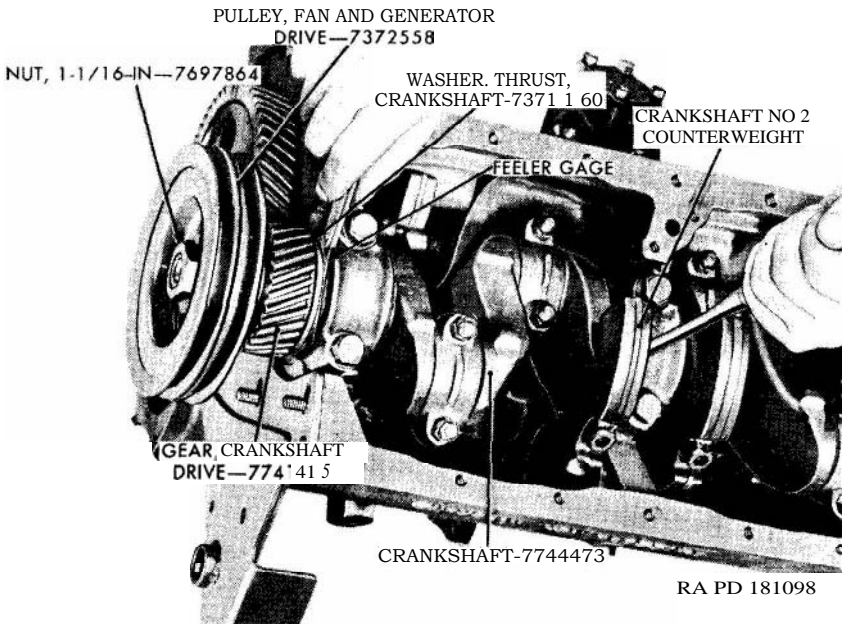

Figure 87. Gaging crankshaft end play.
b. Install the center and front main bearings repeating operation a(1) and (2) above on each bearing.
Note. It is essential for the flanged sides of both halves of the front main bearing to be in perfect alignment when the front main bearing cap is tightened for the last time after completion of operations a(1) and (2) above. Aline these surfaces by using a screwdriver or other suitable pry-bar (fig. 87) to force the crankshaft forward so the thrust face (fig. 74) of the crankshaft held firmly against the flanged edge of the upper half of the front main bearing. Install and tighten the front main bearing cap, lightly tapping the cap backward to force the flanged side of the bearing against the thrust face of the crankshaft as the cap tightening operation progresses.
the fan and generator drive pulley (A, fig. 9), and the $1\frac{1}{16}$ -inch nut (B, fig. 9) on the front end of the crankshaft. Do not install the fan and generator drive pulley woodruff key (AF, fig. 9). Tighten the $1\frac{1}{6}$ -inch nut. Insert a screwdriver or other suitable pry-bar between the center main bearing support and the crankshaft number two counterweight (fig. 87) and pry the crankshaft forward. Insert a feeler gage between the crankshaft thrust washer and the flanged edge of the front main bearing and measure the crankshaft end play. This clearance must be between 0.004- and 0.006-inch (repair and rebuild standards (par. 143a.)).